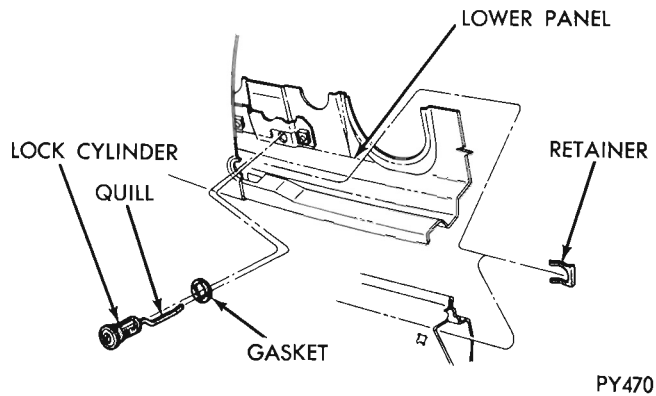
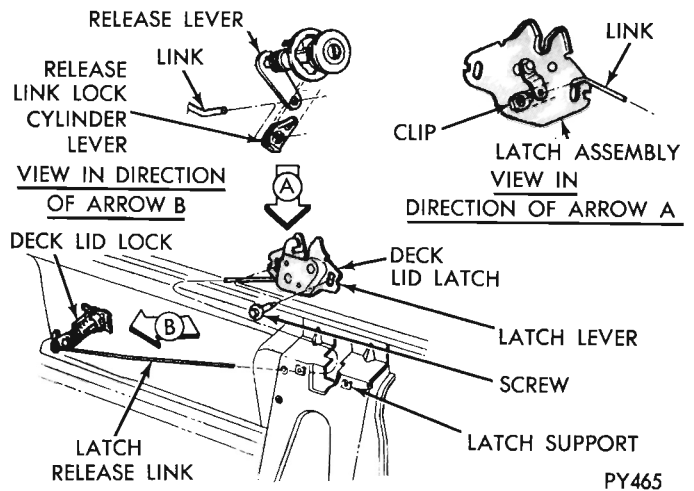

Fig. 42 - Deck Lid Lock Cylinder
Fig. 43 - Deck Lid Lock-Latch Link and Latch
(4) Adjust bars progressively until lid stays in open position.
**DECK LID LOCK CYLINDER (Fig. 42)**
- (1) Assemble gasket to deck lid lock cylinder.
- (2) Assemble gasket and deck lid lock cylinder to attaching hole in deck lid opening lower panel.
- (3) Engage quill into deck lid latch and secure with retainer (deck lid lock cylinder).
**DECK LID LOCK, LATCH LINK AND LATCH ADJUSTMENT (Fig. 43)**
- (1) Assemble deck lid latch release lever clip to latch assembly.
- (2) Assemble link thru clip and release lever of latch assembly.
- (3) Disassemble screws and remove deck lid slave latch.
- (4) Position latch and link assembly to attaching holes in deck lid lower panel latch support.
- (5) Snug assembly with screws removed.
- (6) Adjust latch position for flush alignment of deck lid quarter panel.
- (7) Secure screws.
- (8) Assemble clip to link cylinder lever.
- (9) Assemble link thru clip and release lever of link cylinder.